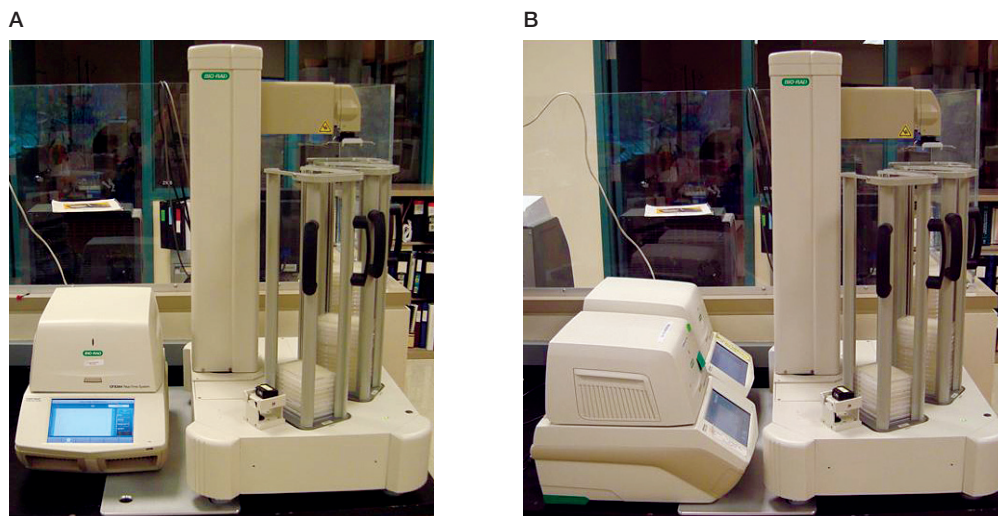

Fig. 2. Single and dual CFX Automation System II configurations.
- **Single CFX System.** Align the right side feet of the CFX System in the mounting plate such that the CFX System front panel is facing forward (Figure 2)
- **Dual CFX Systems.** Align the front feet of the CFX Systems in the mounting plate such that the CFX Systems' front panels are facing the plate handler (Figure 2)